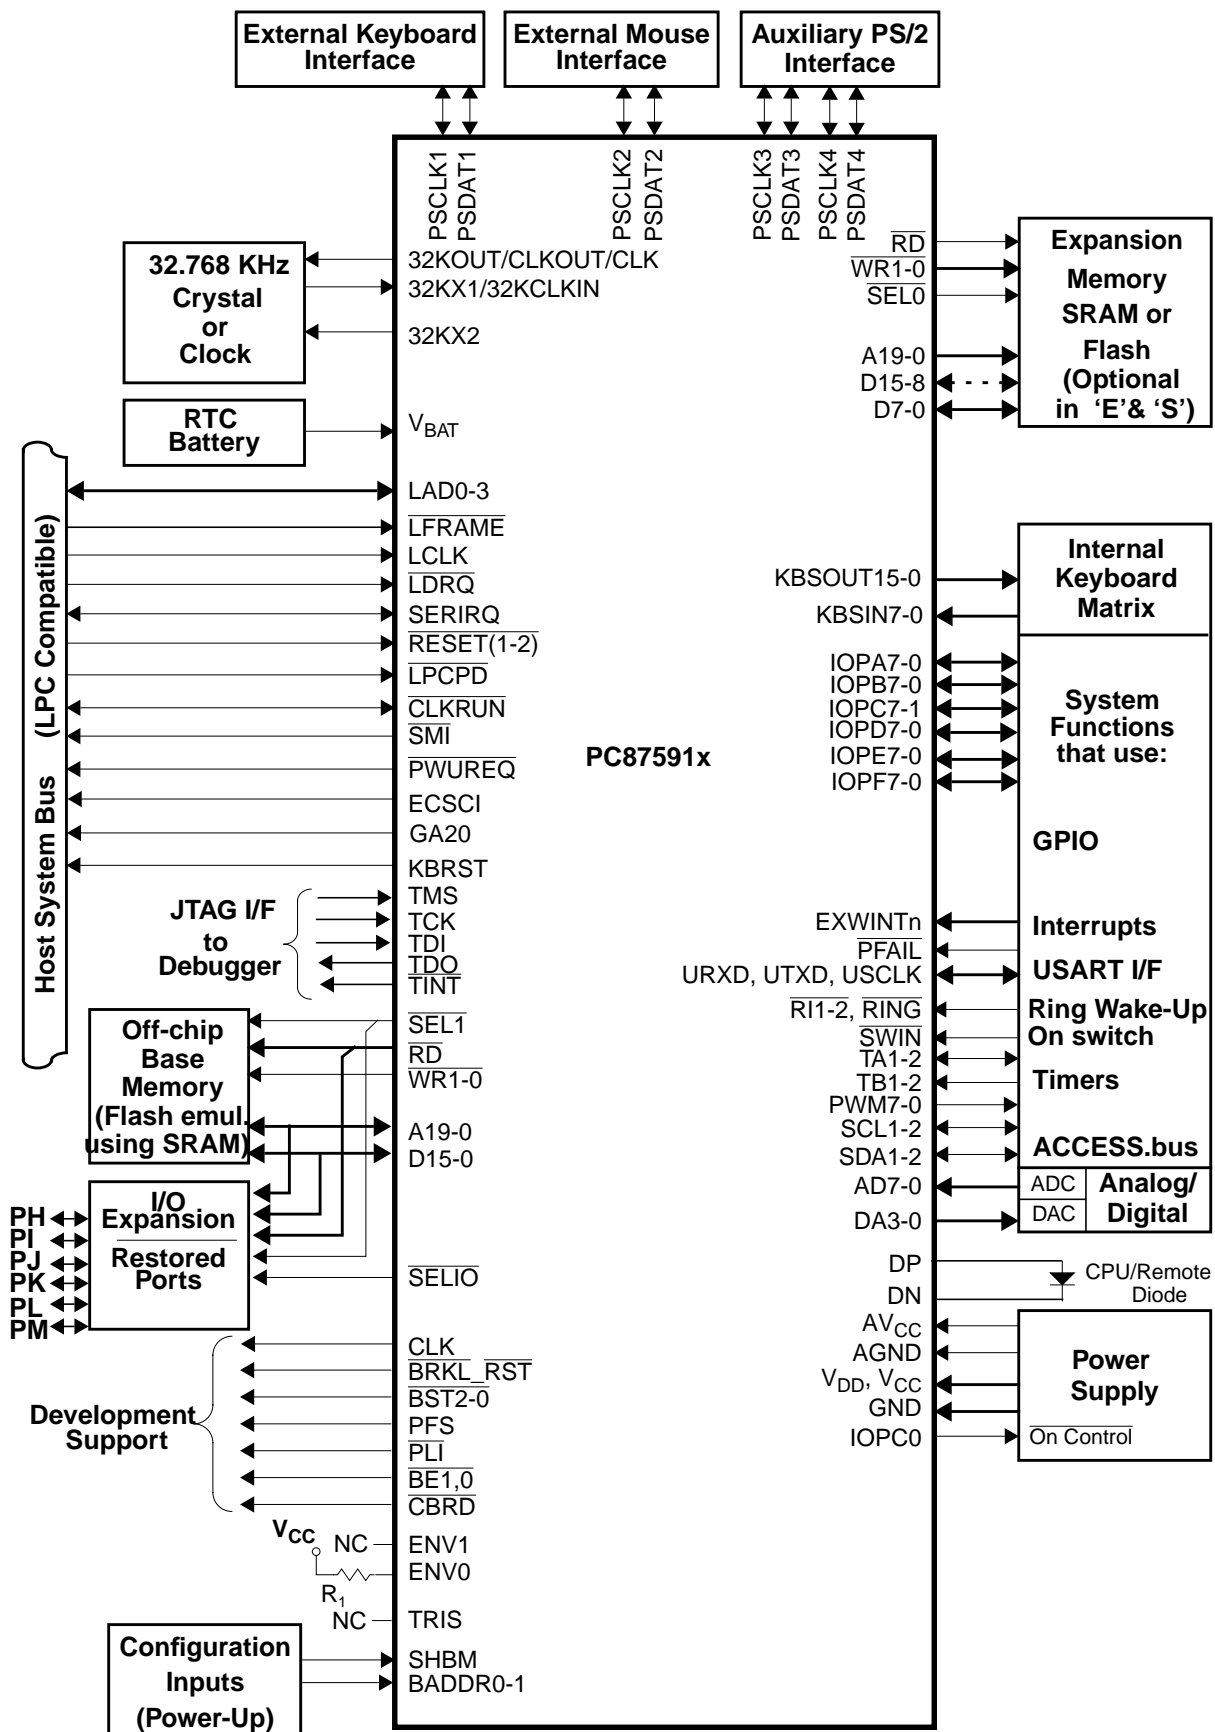

Figure 4. DEV Environment PC87591x System Connection Diagram, 176-Pin Package
See Figure 4 on page 32 for a system example in DEV environment. In this environment, the ENV0 strap pin needs an external pull-up resistor and the ENV1 and TRIS pins are left unconnected. If the flash Contents Protect bit in the protection word is cleared (0), the PC87591x remains reset until the bit is set; see Section 4.16.6 on page 226.